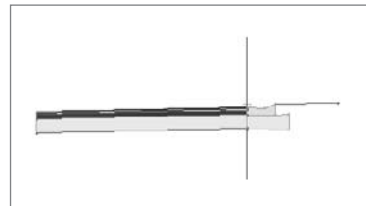

Figure A.74
5. Add the `LaneOutsideSuper` subassembly to the left side of the assembly. The completed assembly will look like Figure A.74.